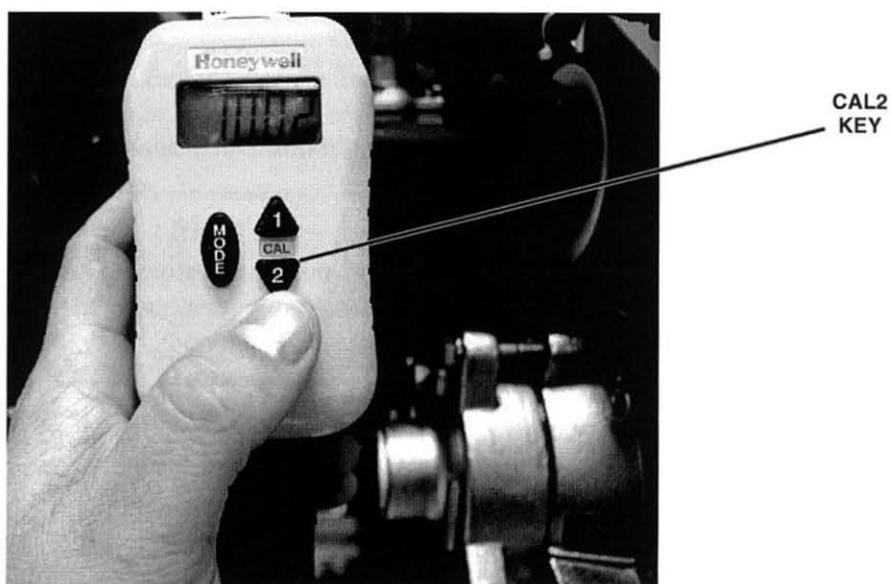

Figure 39. The CAL2 Key
- C. With your free hand, press and hold the **CAL2** key on the sensor module, shown in figure 39, until the display changes from the pH reading. This sets the module to the slope calibration mode.